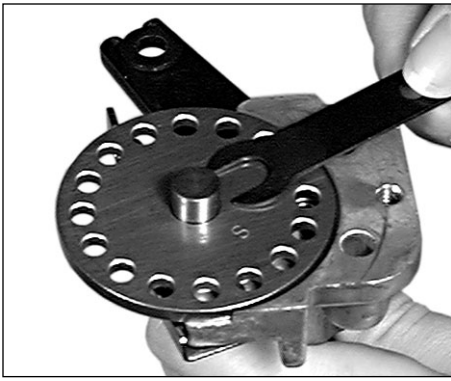

FIG 165
3. Rotate the primer system upside down. Using an 1/8" Allen wrench unscrew the primer support shim and remove the primer support shim **FIG 165**.